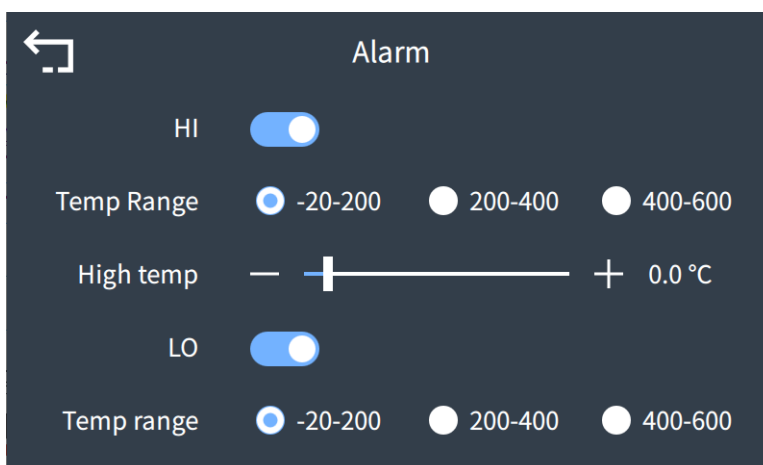

Figure 4.12 Alarm Settings
Step 3: Touch or click the physical button to switch to "Alarm Setting" and press the physical "OK" button to enter the alarm setting interface (as shown in Figure 4.12);